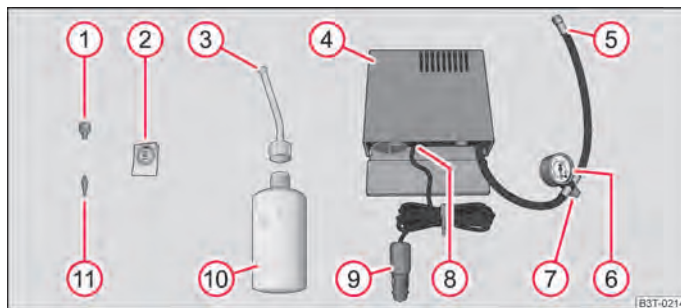

Fig. 192 Components of the tyre repair kit
- Stick the sticker ② ⇒ fig. 192 on the dash panel in view of the driver.
- Use the valve remover ① to remove the valve core and place it down on a clean surface.
- Forcefully shake the tyre inflator bottle ⑩ ⇒ fig. 192 several times.
- Firmly screw inflation hose ③ onto the tyre inflator bottle in a clockwise direction ⑩. The film on the cap is pierced automatically.
- Remove the plug from the inflation hose ③ and plug the open end fully into the tyre valve.
- Hold the bottle ⑩ with the floor facing upwards and fill the whole sealing agent in the tyre inflator bottle into the tyres.
- Screw the valve core back into the tyre valve using the valve remover ①.
- Screw the tyre inflation hose ⑤ ⇒ fig. 192 of the air compressor firmly onto the tyre valve.
- Check whether the air release valve ⑦ is closed.
- Plug the connector ⑨ into 12 Volt socket ⇒ page 91.
- Switch on the air compressor with the ON and OFF switch ⑧.
- Allow the air compressor to run until reaching a pressure of 2.0 - 2.5 bar. Maximum run time of 8 minutes ⇒ ❶!
- If you cannot reach an air pressure of 2.0 - 2.5 bar, unscrew the tyre inflation hose ⑤ from the tyre valve.
- Screw the tyre inflation hose of the air compressor ⑤ firmly back onto the tyre valve and repeat the inflation procedure.